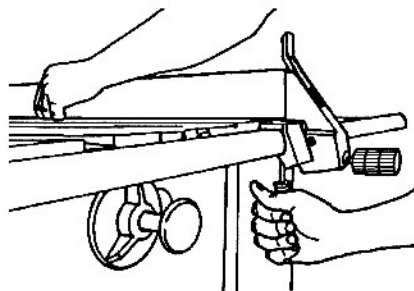

Fig. C-11
17. Move the back section of the fence in alignment with the miter slot, as demonstrated by the left hand of Fig. C-11. When the entire length of the fence is aligned with the miter slot, use a medium Phillips screwdriver to tighten the screw nearest the fence base, as illustrated by the right hand in Fig. C-11.